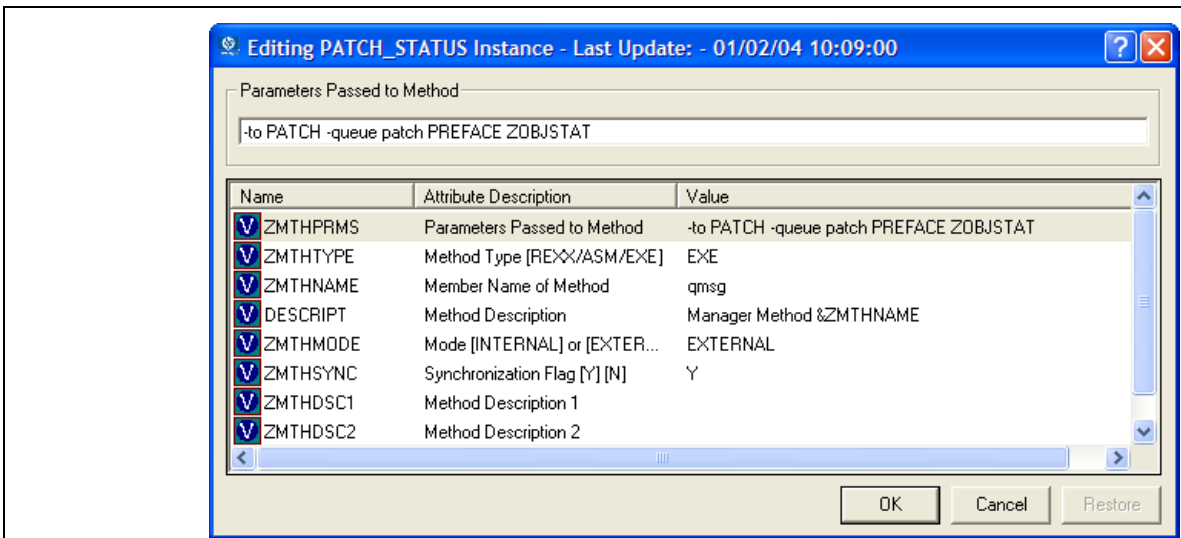

Figure 2: Specify the Patch queue name in ZMTHPRMS.
1. Use System Explorer to edit the ZMTHPRMS attribute of the PRIMARY.SYSTEM.ZMETHOD.PATCH_STATUS instance, as shown in Figure 2 below.